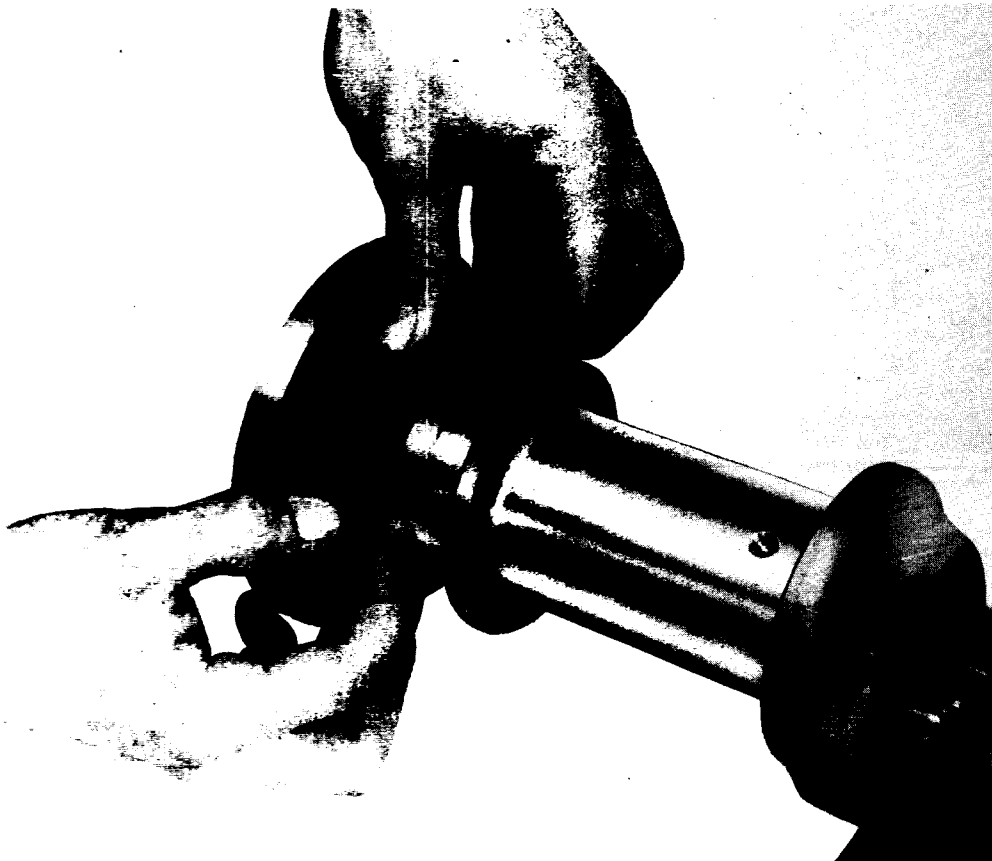

Figure 42. Installing Crankshaft Oil Seal Spring
i. Pass the oil seal spring around the crankshaft on the recessed side of the seal and hook its ends. Lift it into the seal recess at the split and work the remainder in progressively, move the fingers in both directions from the starting point. (See figure 42.) Make sure that the spring is in the deepest part of the recess all around. The hooked ends should be opposite the seal split.